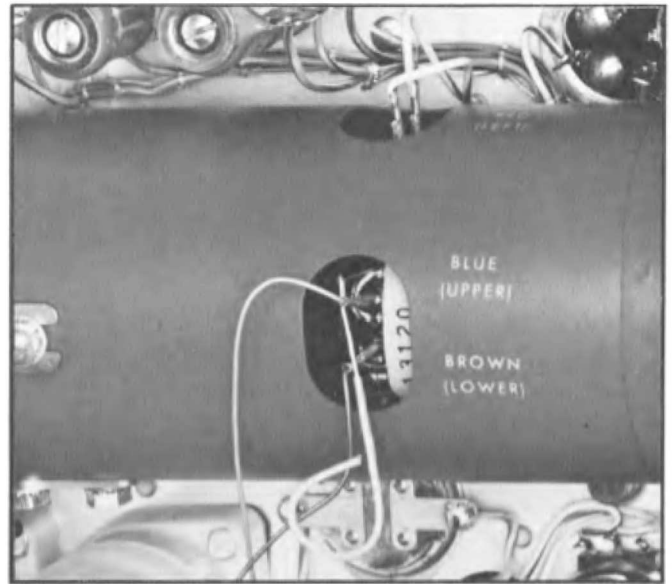

Fig. 6-6. Shorting crt vertical deflection pins, step 12.
- c. Position the trace to the graticule centerline. Use a non-magnetic tool or wire (with insulation for the hands) and short the crt vertical deflection pins together. See Fig. 6-6. Note the trace position on the crt. This is the crt electrical center.